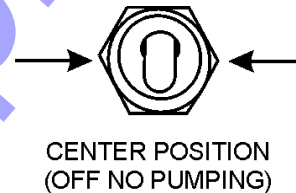

Figure 38. Pumping Control Switch Center Position (No Pumping)
4. Place the pump control switch (Figure 38) on the control panel in the center position (no pumping).